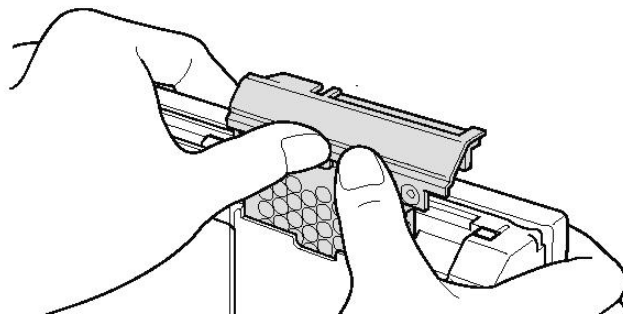

Figure 12-15.- A31p Hard Drive removal.
7. Refer to figure 12-15 for removing A31p Hard Drive | Gently pull cover and A31p Hard Drive out from the A31p Laptop to remove from slot